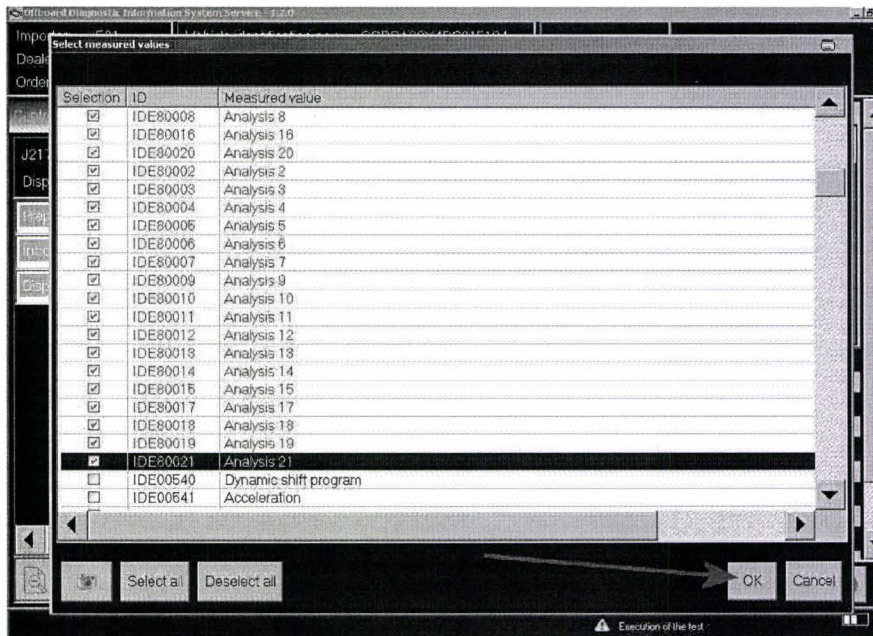

Figure 11
- Referring to Figure 11, It is a requirement to tick and select the 20 boxes as shown, this is to ensure all relevant information is captured before and after the Adaptions process/road test is conducted, please ensure that all of the ID numbers/Measured values shown are selected